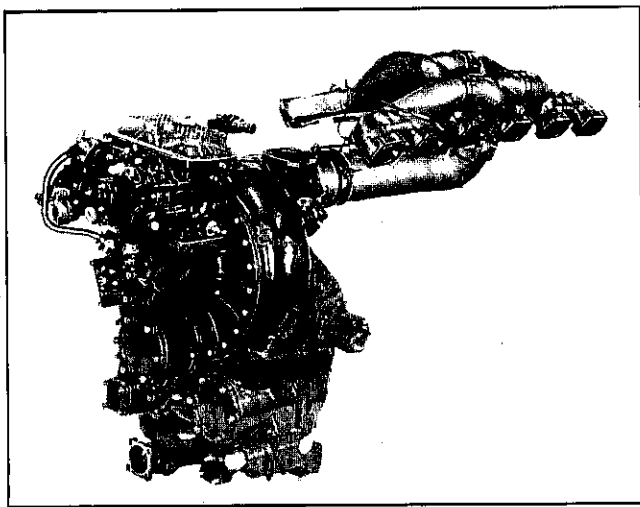

Figure 22—Induction System.
(1) A forced induction system is used to supply the fuel-air mixture to the cylinders. Carburetion of the fuel is obtained by use of a single Bendix-Stromberg two barrel injection carburetor. The carburetor consists of a throttle body, a regulator unit, and control unit mounted on the supercharger inlet cover. An external pipe carries the fuel from the control unit to the injection nozzle located to the rear of the supercharger elbow, where it is injected directly on the supercharger impeller. The location of the carburetor and nozzle adapter is shown in Figure 22.
(2) The supercharger is contained in the accessories housing. The impeller unit consists of two parts, one part having 15 radial blades with strengthening webs between each blade, and another part made up of 15 matched curved guide vanes. The parts maintain their matched relation through a common spline on the impeller shaft. The fuel-air mixture flows through a dif-